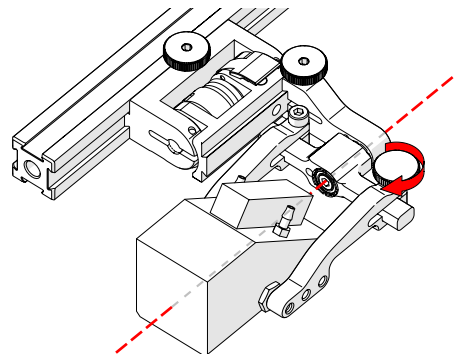

Fig. 194 - Pinch wedge with arm
9. Tighten probe holder arm adjustment knob (Fig. 194).